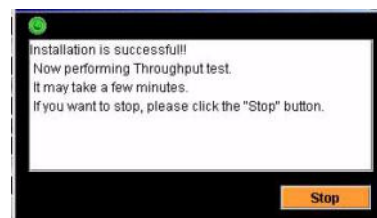

Figure 5-15 Performing Throughput Test Window
- d. After the ping test, the AIM performs a throughput test (an FTP transfer of 1 megabyte of data up and down the wireless link), displaying the window shown in Figure 5-15.